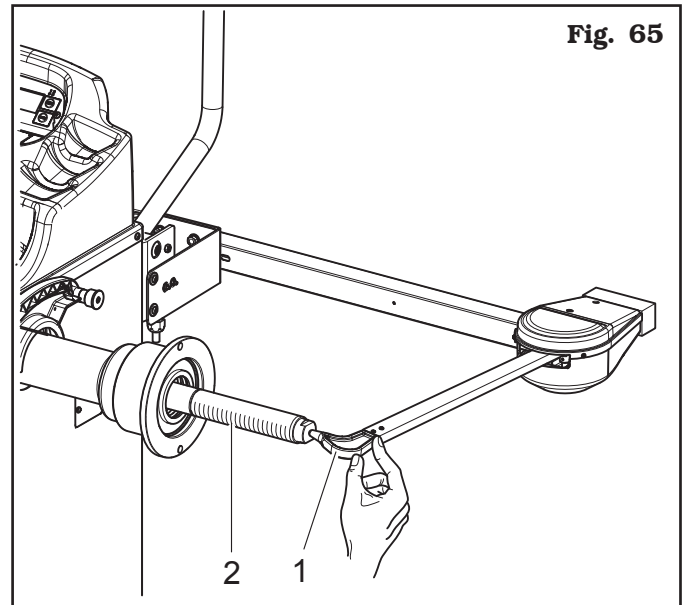

Fig. 65
Move the tip of the width measuring device (**Fig. 65 ref. 1**) by the mandrel end (**Fig. 65 ref. 2**), D2 display will show a bit value.
to confirm, otherwise in case you have an external data gauge (see **Fig. 65**) bring the gauge tip against the outer edge of the rim (see **Fig. 22**) and wait for a few seconds. The distance value measured previously will be displayed